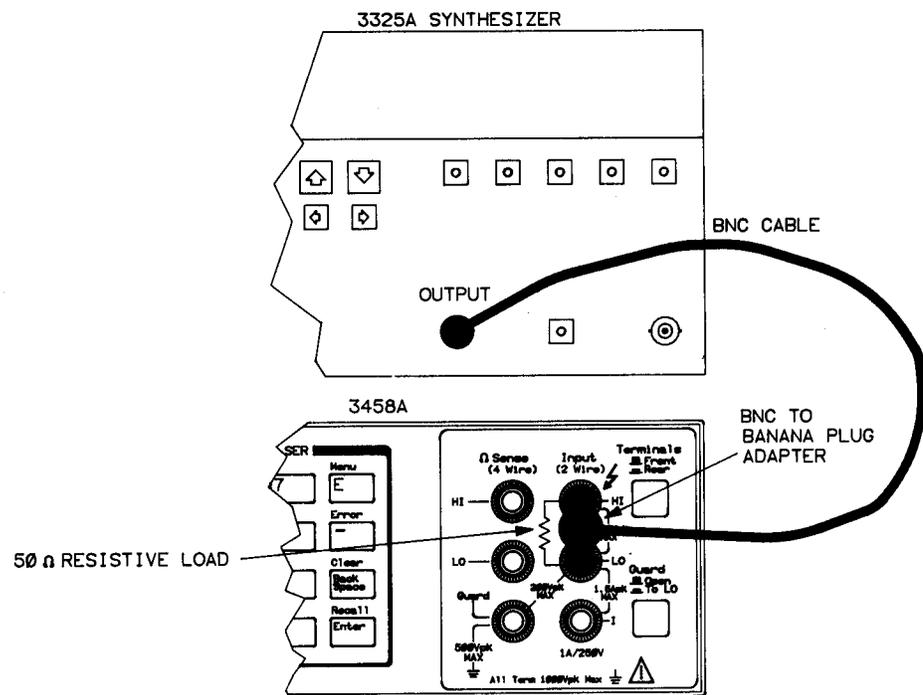

Figure 5. AC Adjustment Connections
10. Disconnect the thermal converter and connect the synthesizer, 50Ω resistive load, and multimeter as shown in Figure 5.